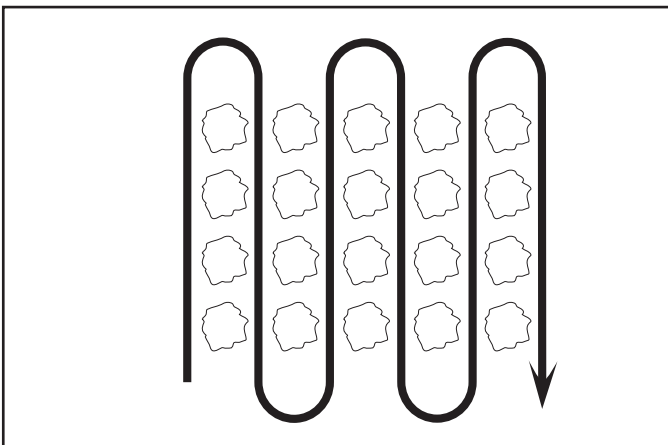

FIG. 16
- Cultivate up and down the rows at a speed which will allow tines to uproot weeds and leave the ground in rough condition, promoting no further growth of weeds and grass (See Fig. 16).